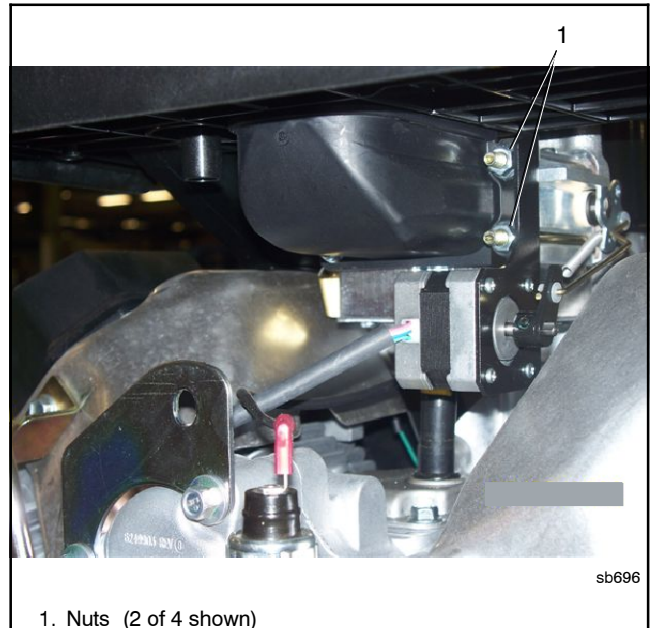

Figure 2 Carburetor Assembly and Stepper Motor
4. Open the enclosure roof and remove the front panel, if necessary, to gain access to the stepper motor area shown in Figure 2. Identify the four nuts that secure the stepper motor mounting bracket and carburetor assembly to the engine.